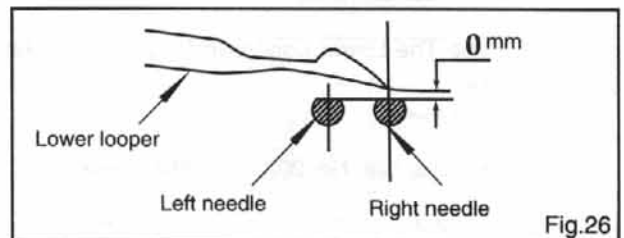
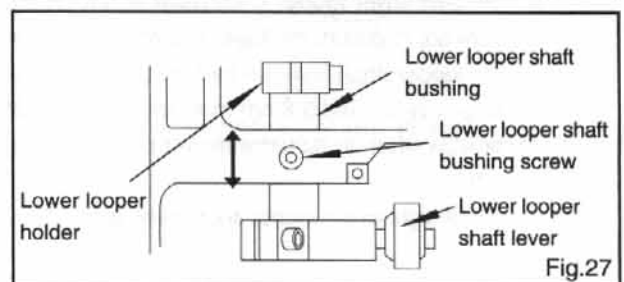

Fig.26
Fig.27
- c) Loosen lower looper shaft bushing screw (Fig. 27 ) and move looper shaft bushing forward or backward, as required, until clearance between looper point and reverse side of right needle is zero. (Fig. 26 )